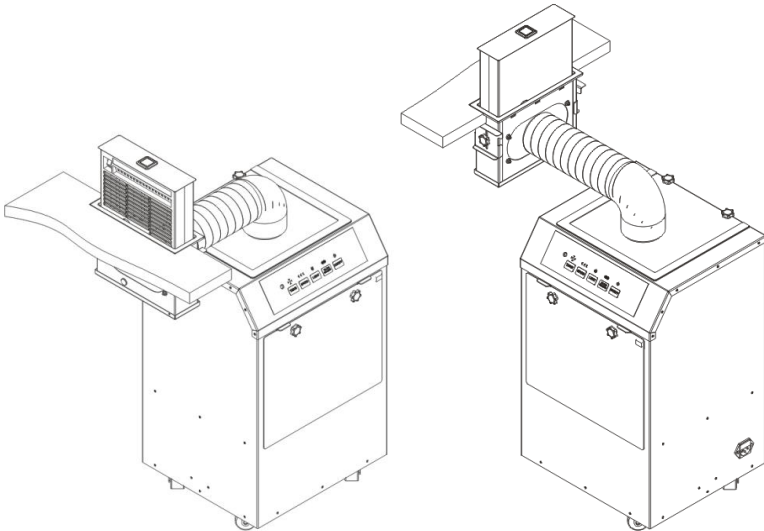

Fig. 12 – Duct Connection to HealthyAir® Unit
5.12 Duct the outlet of the Source Capture® Vent to the inlet of the HealthyAir® Air Purification System, as shown in Fig. 12.